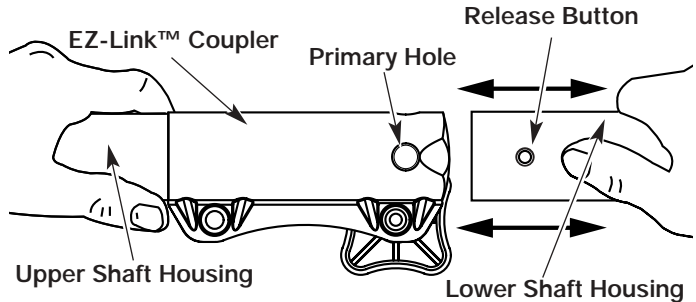

Fig. 20
1. Turn knob counterclockwise to loosen (Fig. 20).
2. While firmly holding the add-on, push it straight into the EZ-Link™ coupler (Fig. 20).